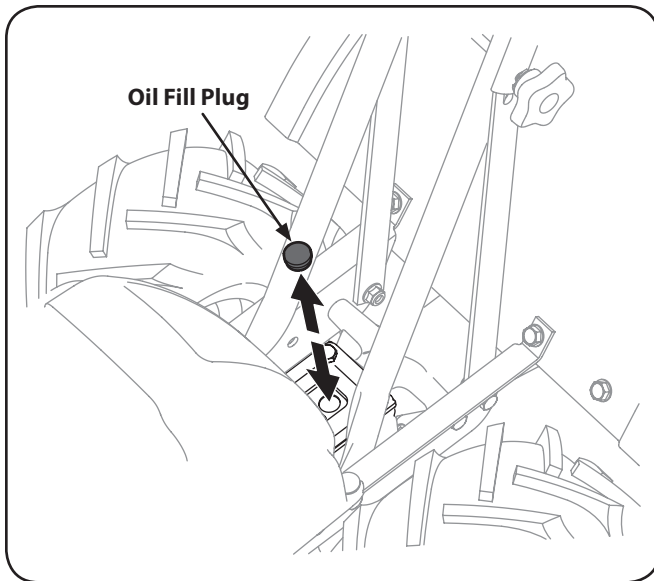

Figure 6-2
3. Clean the area around the oil fill plug. See Fig. 6-2.
4. Remove the oil fill plug from the transmission housing and look inside the oil fill hole to locate the main drive shaft situated below the hole. See Fig. 6-2.